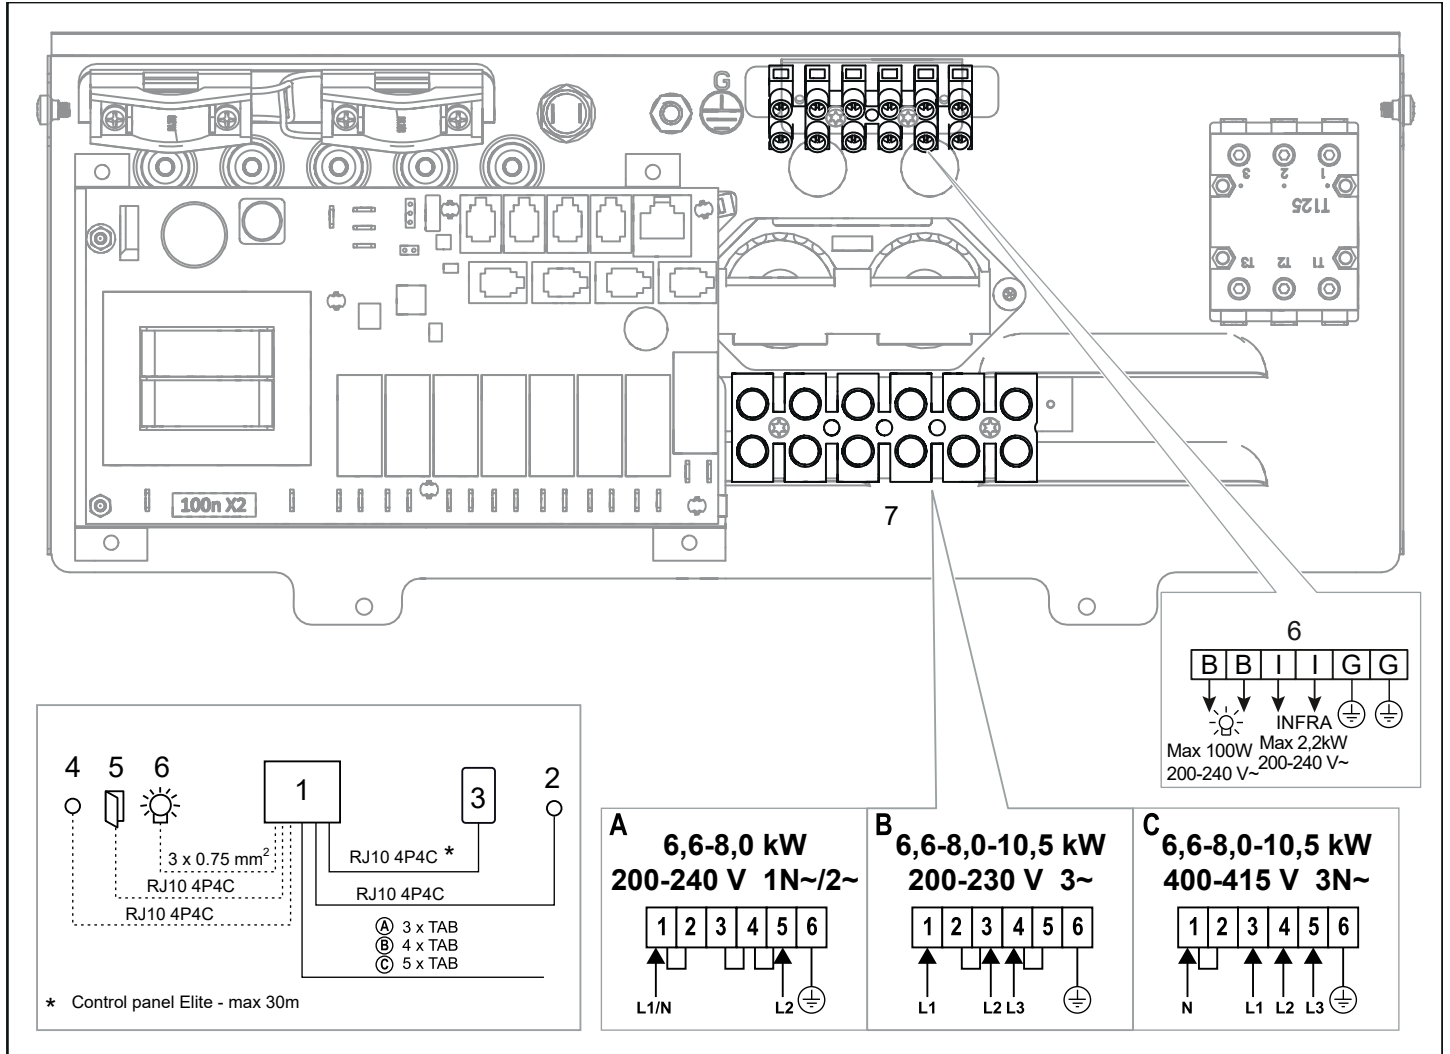

Figure 17: Wiring diagram
3. Connect the electrical cable (see Figure 9) according to the wiring diagram (see Figure 17).
6. Connect the light cable (if relevant), see Figure 9, according to the wiring diagram Figure 17.
Contact Tylö Customer Service before connecting to voltages or numbers of phases that are not listed in the wiring diagram Figure 17.